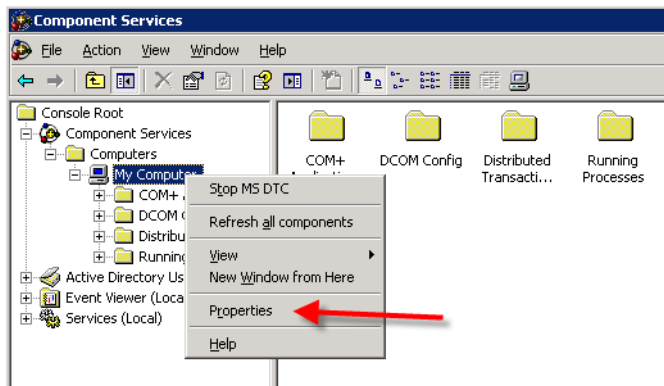

Figure 2-27 Component Services, My Computer Menu
3. Expand the Component Services tree until “My Computer” appears, and select **Properties**, as shown in figure 2-27.